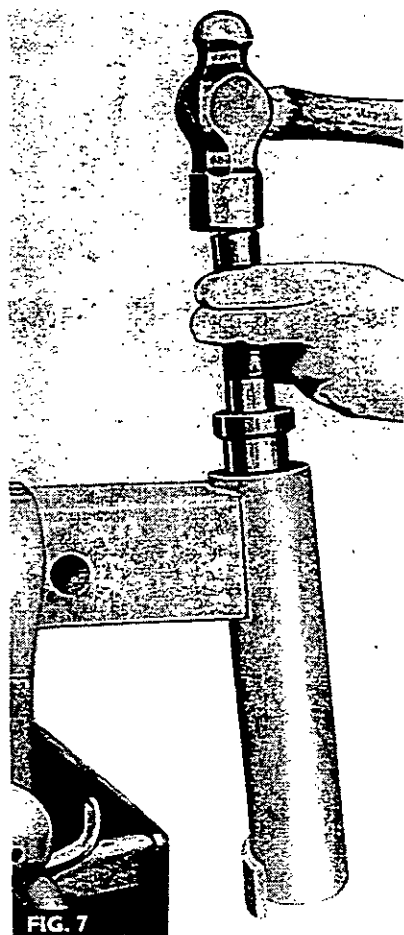

FIG. 7
5. Fig. 7. Position the new bush squarely over the bore, as shown, then drive in the new bush using the 550 handle and the adapter MF 263-1.